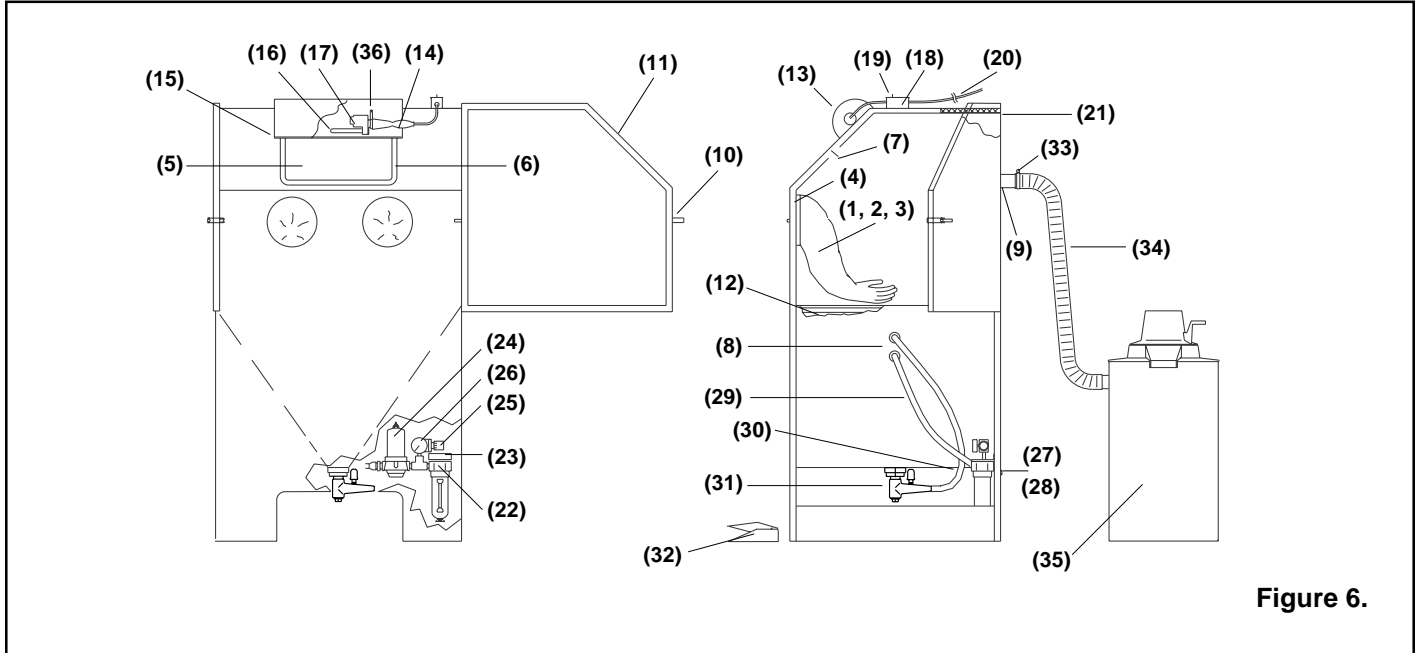

Figure 6.
7.1 Cabinet Assembly (Figure 6)